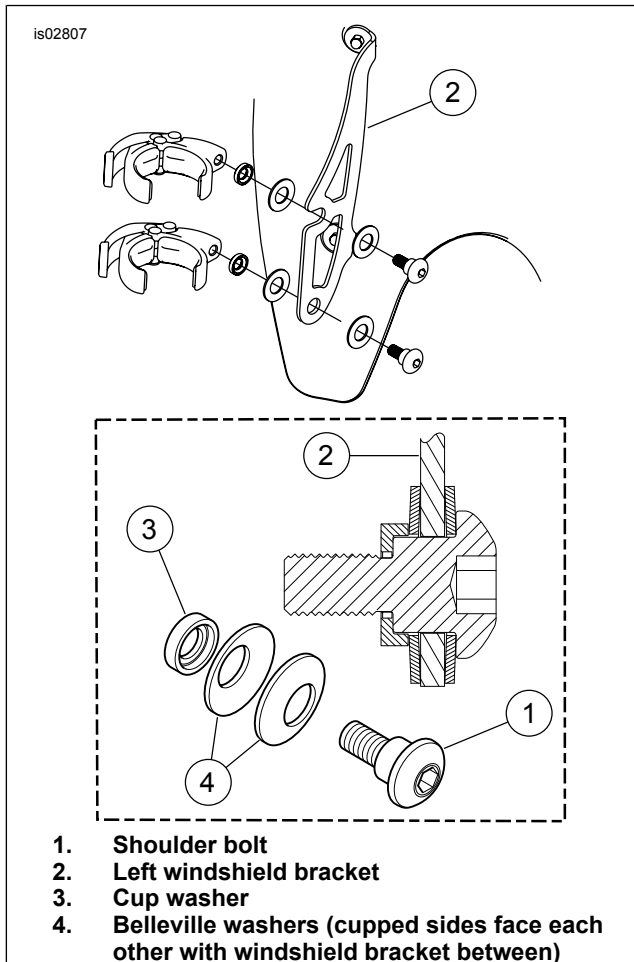

Figure 2. Windshield Mounting Clamp
2. See Figure 2. The windshield requires four clamps. The upper two mount locations are slotted in the windshield brackets and the lower two are thru holes. Separate the four clamps, shoulder bolts, cup washers and Belleville washer hardware from their packaging.
3. See Figure 2. Take one shoulder bolt and one Belleville washer. Position the Belleville washer on the shoulder so that the cupped side of the washer is facing away from the bolt head.
5. Using another Belleville washer and the machined cup-spacer, position the Belleville washer again with the "cupped" side of the washer facing the windshield bracket sandwiching it and the cup spacer's cup side facing the Belleville washer. The complete stack of components is shown in Figure 2 and should be assembled as shoulder bolt, Belleville washer, bracket, Belleville washer, cup spacer and clamp.
7. Assemble second hardware stack complete (position the Belleville washer again with the "cupped" side of the washer facing the windshield bracket sandwiching it and the cup spacer's cup side facing the Belleville washer) as shown in Figure 2. Loosely thread shoulder bolt into clamp. Keep loose enough to spread Belleville washers apart to the width of the bracket.